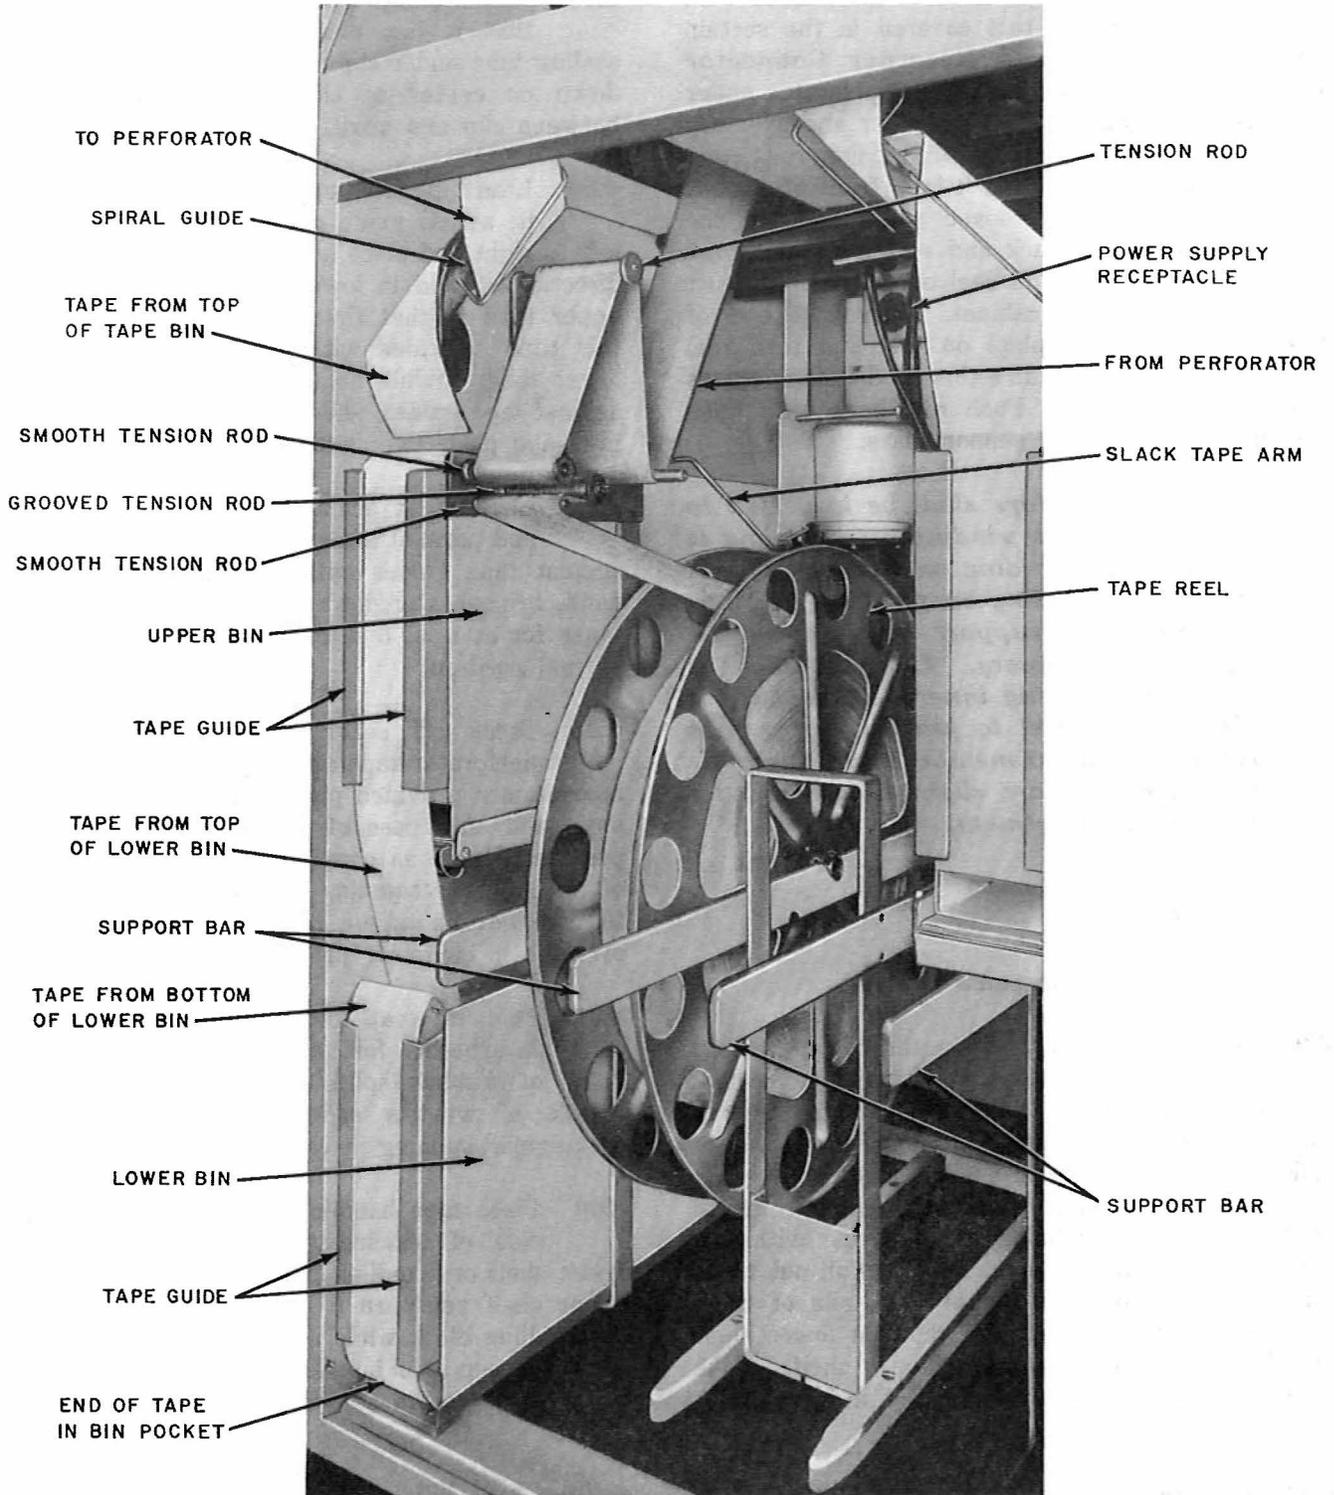

Fig. 2—Perforator Cabinet—Lower Section
5.02 Place slack tape arm (Fig. 2) in the holder directly above the rear end of tape tension rod and support bar. This prevents reel drive mechanism from running. Pull end of tape from the top of upper bin and feed it through spiral guide; turn it in a spiral to conform to the shape of the guide and take care to keep tape flat in guide. Insert tape into input tape chute of perforator until end comes out of output chute. Advance tape by operating AT key several times.